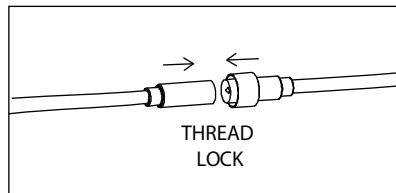

Figure 3 / Figura 3 / Schéma 3
3. Connect the remote driver box to the light fixture and tighten the nut connector by hand. Arrow on the male and female parts of the connector between the driver and fixture cable should match. (Figure 3)